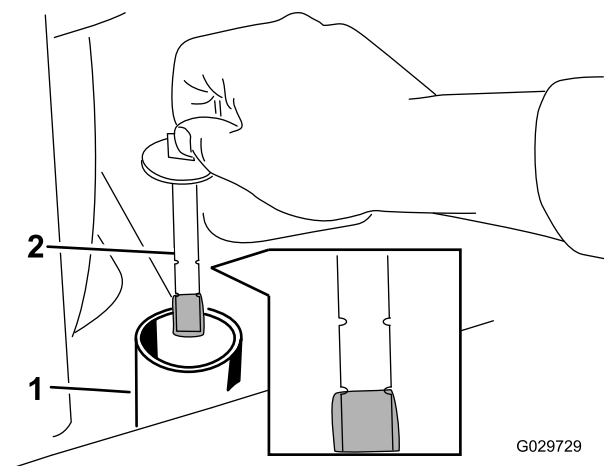

Figure 57
4. Remove the hydraulic-tank cap and dipstick (Figure 57).